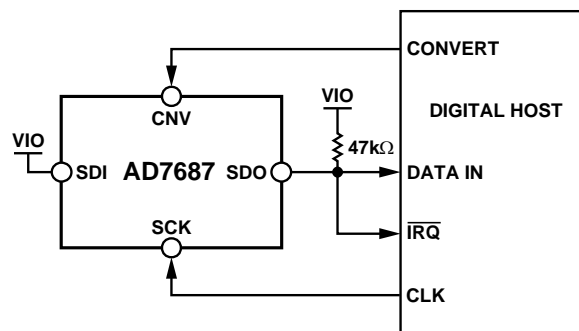
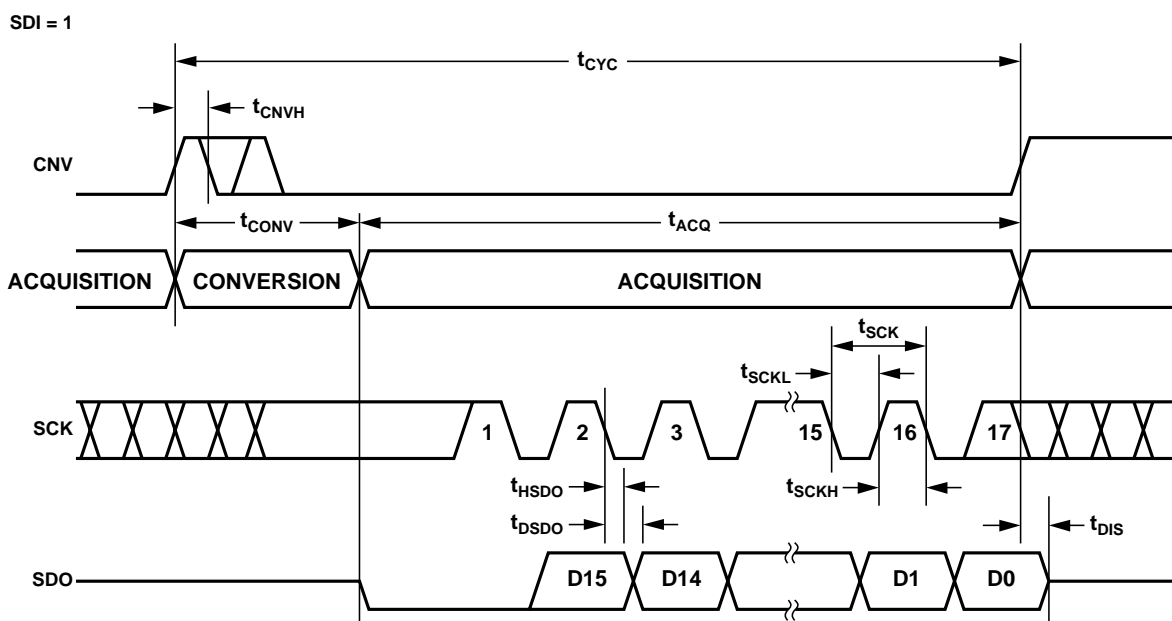
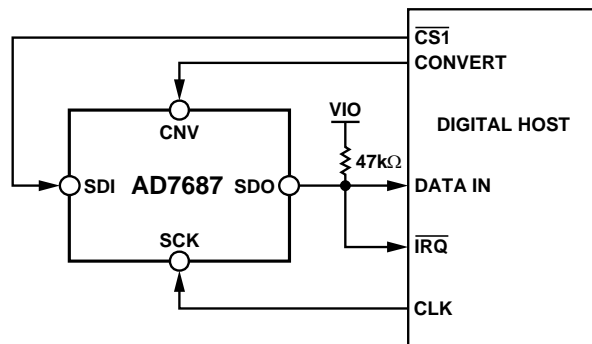
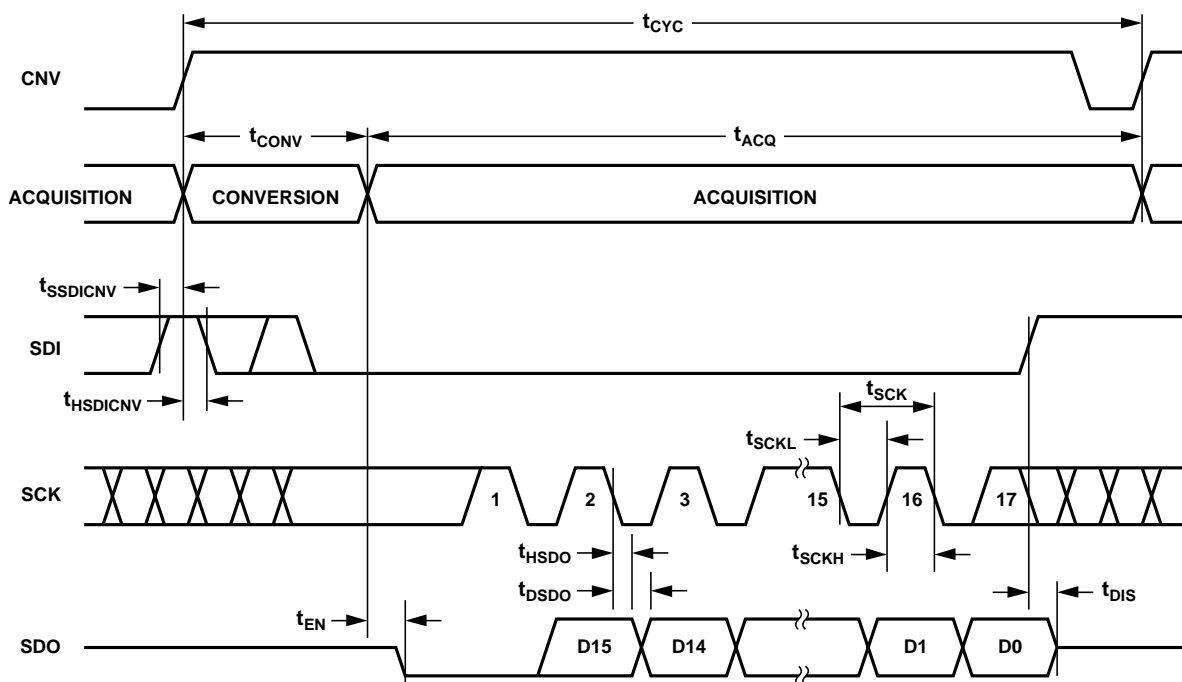

Figure 37. \overline{CS} Mode 3-Wire with BUSY Indicator Connection Diagram (SDI High)
Figure 38. \overline{CS} Mode 3-Wire with BUSY Indicator Serial Interface Timing (SDI High)
Figure 41. \overline{CS} Mode 4-Wire with BUSY Indicator Connection Diagram
Figure 42. \overline{CS} Mode 4-Wire with BUSY Indicator Serial Interface Timing
- In the \overline{CS} mode, if CNV or SDI is low when the ADC conversion ends (Figure 38 and Figure 42).
The connection diagram is shown in Figure 37 and the corresponding timing is given in Figure 38.
The connection diagram is shown in Figure 41 and the corresponding timing is given in Figure 42.